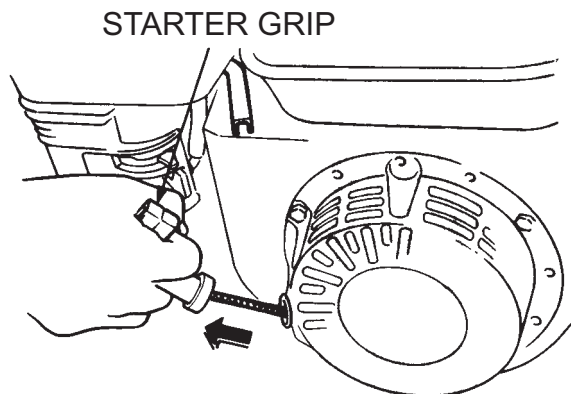

Figure 14. Starter Grip
3. Grasp the starter grip (Figure 14) and slowly pull it out. The resistance becomes the hardest at a certain position, corresponding to the compression point. Pull the starter grip briskly and smoothly for starting.